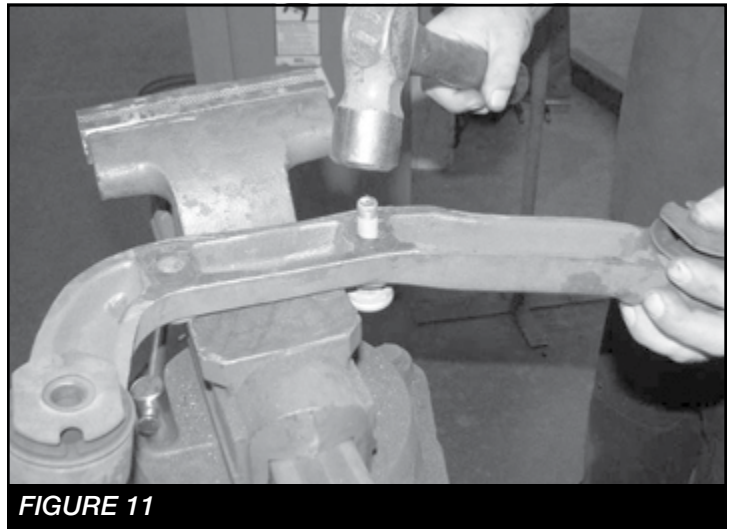

FIGURE 11
14. Remove the factory studs from the differential mount and discard the differential mount. **SEE FIGURE 11**